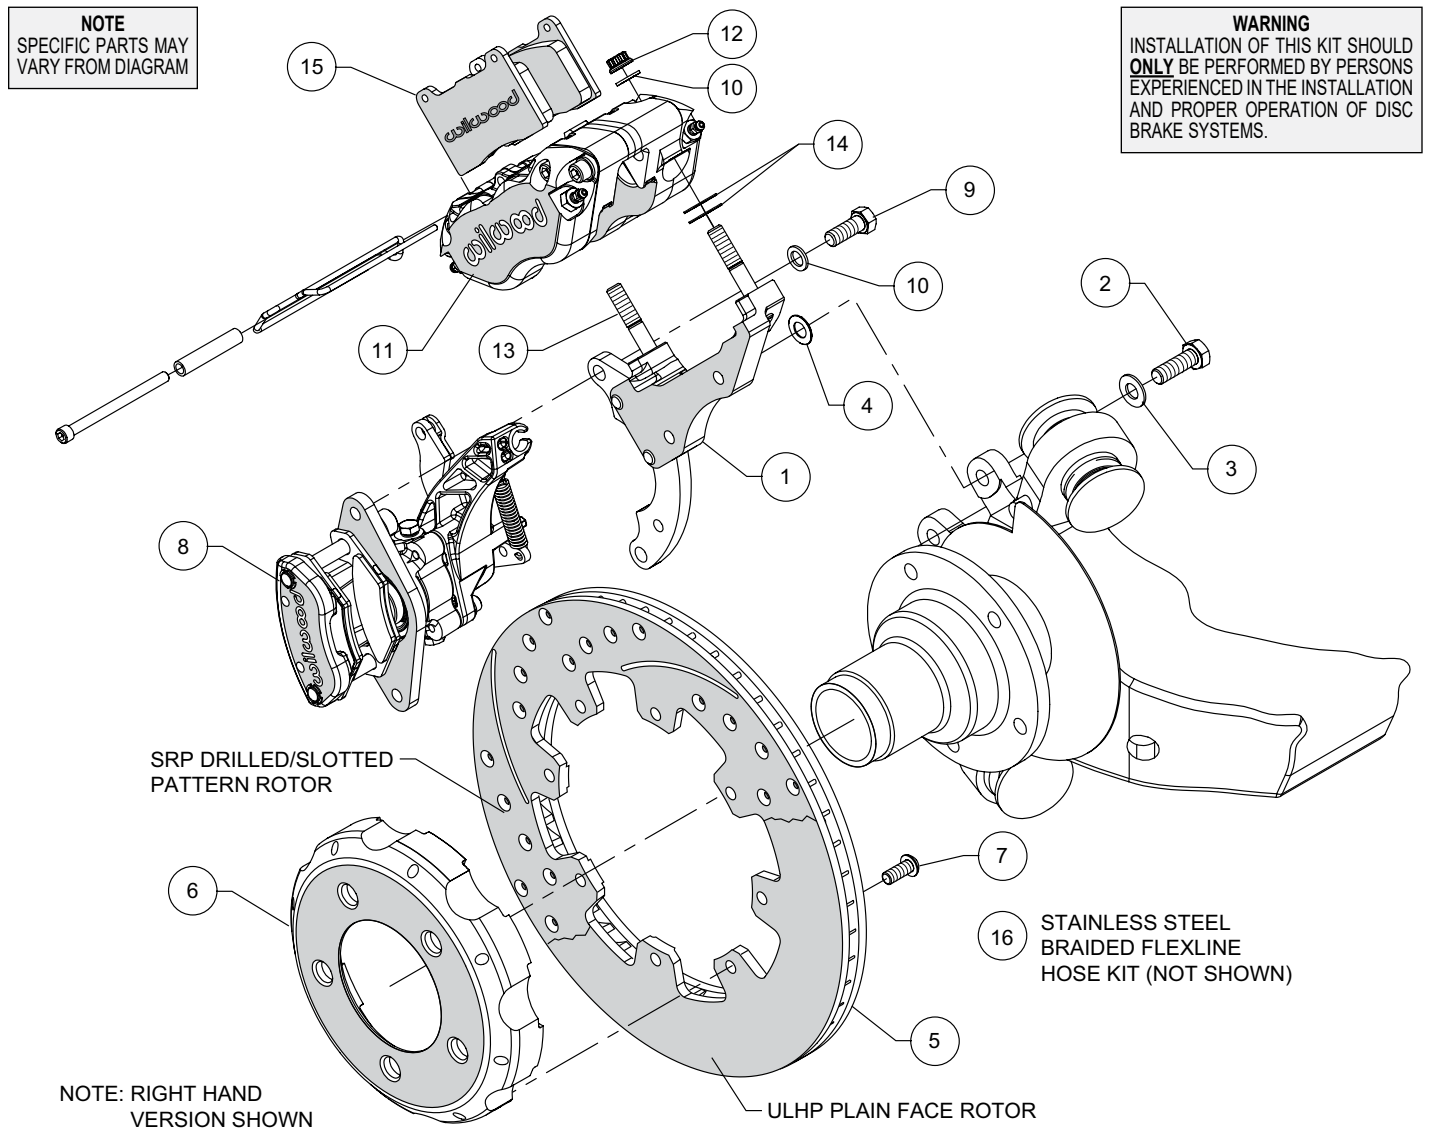

Figure 1. Typical Installation Configuration
**NOTE:** Numbers in parenthesis refer to the parts list and Figure 1 on the preceding pages.
- The caliper mount bracket (1) should initially be installed with clean, dry threads on the mounting bolts. Orient the bracket as shown in Figure 1, and Photo 1, and install using bolts (2) and washers (3). Initially place one .030" thick shim (4) on each bolt between the bracket and upright, Figure 1. Temporarily tighten the mounting bolts. **NOTE:** *The bracket must fit squarely against the mount bosses on the upright.* Inspect for interference from casting irregularities, machining ridges, burrs, etc. Later, after the caliper alignment has been checked, the mount bolts will be secured using red *Loctite*® 271.
- Orient the rotor (5) and the hat (6) as shown in Figure 1 and Photo 2. Attach rotor to hat using bolts (7). Using an alternating sequence, apply red *Loctite*® 271 to the threads, and torque to 25 ft-lbs.
- Lubricate the caliper mounting studs (13) with lightweight oil. Initially place two .035" thick shims (14) on each stud as shown in Figure 1 and Photo 5. Mount the DynaPro caliper (11) onto the bracket (1) using lock nuts (12) and washers (10), Figure 1. Temporarily tighten the lock nuts and view the rotor through the top opening of the caliper. The rotor should be centered in the caliper, Photo 6. If not, adjust by adding or subtracting shims (4) between the bracket and the mounting bosses. Always use the same amount of shims on each of the two mounting bolts. Once the caliper alignment is correct, remove the bracket mounting bolts (2) one at a time, apply red *Loctite*® 271 to the threads, and torque to 35 ft-lb.
- Insert the brake pads (15) into the caliper with the friction material facing the rotor (5), as shown in Figure 1 and Photo 7. Check that the top of the brake pad is flush with the outside diameter of the rotor, Photo 8. If not, adjust by adding or subtracting shims (14) between the caliper and the bracket. After the caliper pad height is set, torque the caliper lock nuts (12) to 30 ft-lb. Secure the pads in place using the pad clip retainer as well as the center bridge pad retainer tube, bolt, and locknut, Photo 9. The locknut should be snug without play in the bolt or tube. Be cautious not to over tighten.
- Orient the parking brake caliper (8) as shown in Figure 1 and Photo 10, and mount onto the caliper mounting bracket (1) using bolts (9) and washers (10), Figure 1. Apply red *Loctite*® 271 to bolt threads, and torque to 35 ft-lb.